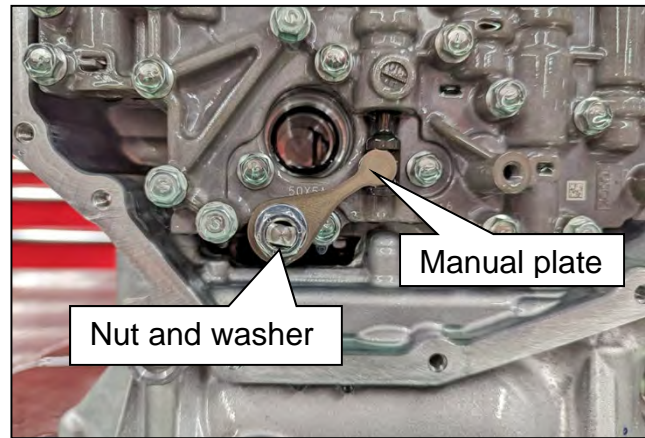
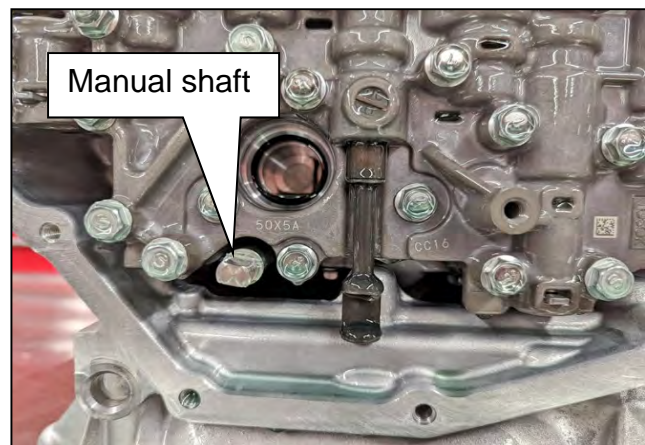

Figure 22
Figure 23
14. Remove the nut and washer, and then remove the manual plate (Figure 22 and Figure 23).